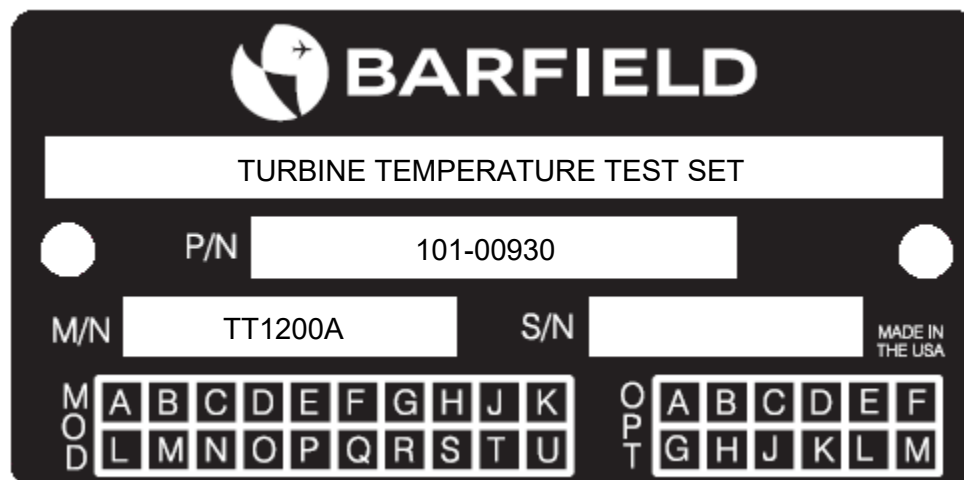

Figure 1 Identification Label
- A. The identification label located on the front bulkhead of the Test Set (Figure 1), provides the following information: